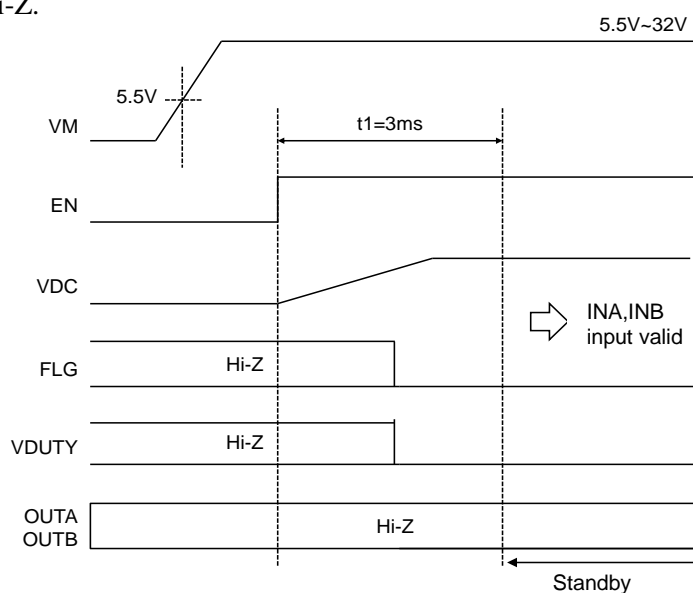
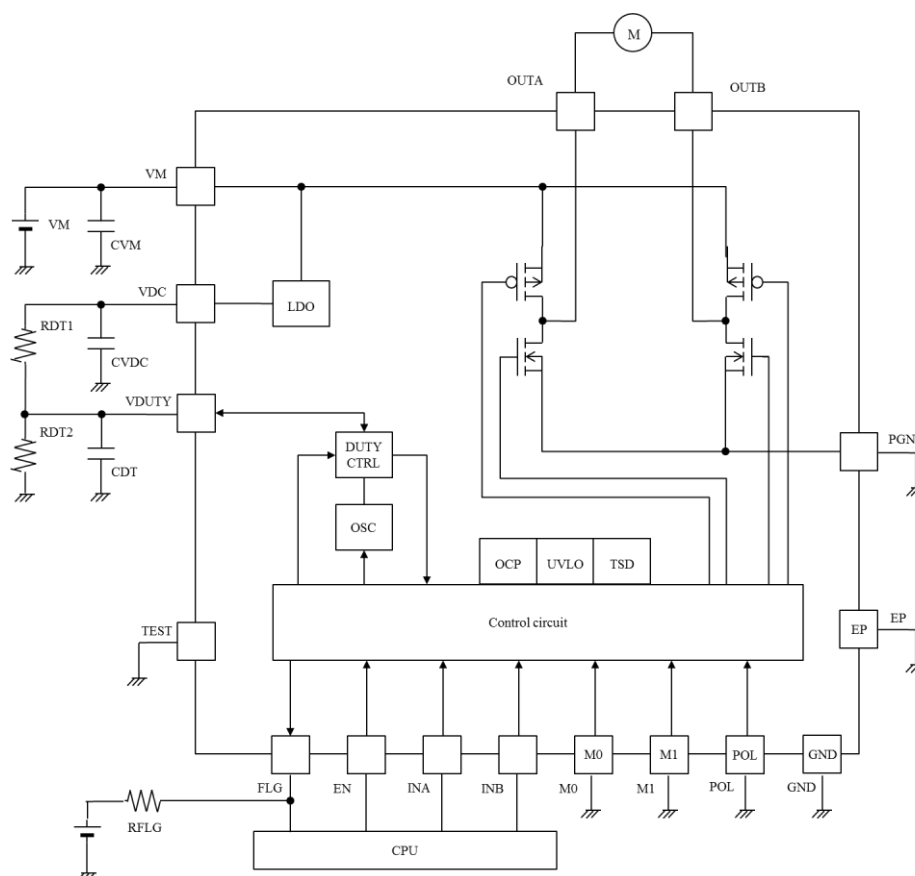

Figure 8. Timing Chart of EN voltage input after power-up
Figure 10. Recommended External Circuit
Note 10. See Figure 8 and Figure 10 for timing chart of Standby and Stop. See Figure 3 for timing chart of Brake.
4.5V LDO output will rise by applying a 5.5V voltage or more to the VM pin and setting the EN pin = "H". Input the INA and the INB signals 3ms (t_1 period) after the EN pin = "H", waiting for the stabilization of the VDC output. After the certain stabilization time of VDC output (t_1 period), The IC becomes Standby and INA and INB input become valid. Figure 8 is timing chart from VM power supply to INA, INB input is valid.
4.5V LDO output stops after inputting "L" to EN pin. Within 100ms (t_2 period), OUTA and OUTB become Hi-Z(Stop). Do not change input levels of INA and INB, because OUTA and OUTB changes according to input level of INA and INB during t_2 period. Figure 10 is timing chart from IN="H" becomes "L" to OUTA=OUTB = Hi-Z.